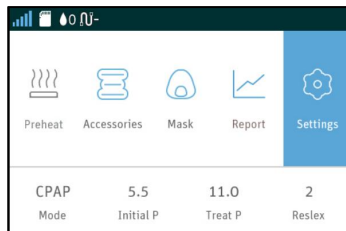

Fig. 15-2
- (1) When the signal is weak, data transmission may become slow and even stop.
- (2) The Cellular Module will keep searching for Cellular Module signals until one is found. If the signal is strong, the signal icon appears in the Main Screen, as shown in Fig. 15-2 (the signal icons of different strength appear in a similar way).